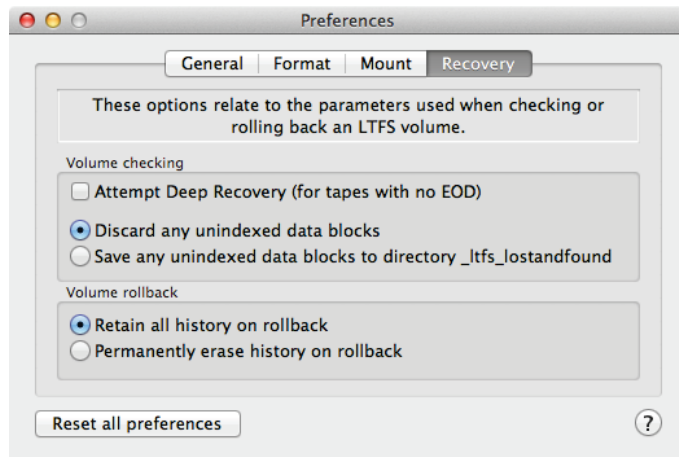

Figure 17. Mac Recovery preferences
2. Open the application Preferences pane and select the Recovery tab (Figure 17).